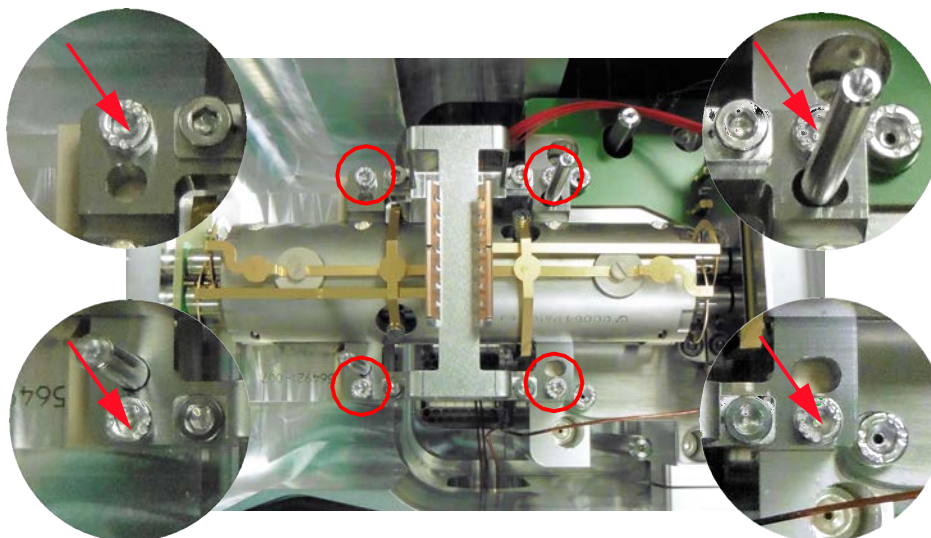
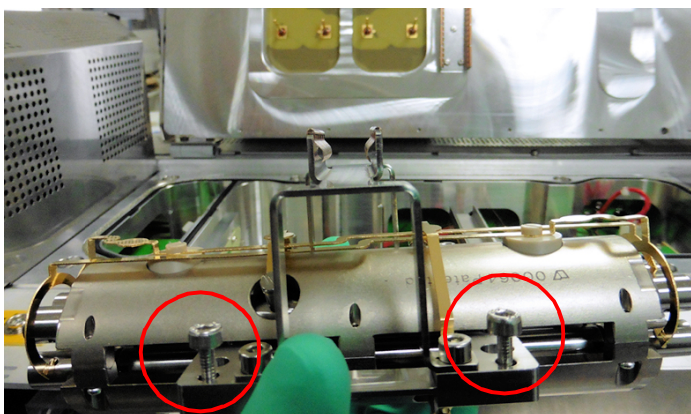

Figure 4. Quadrupole screws
Figure 5. Quadrupole removed
- Loosen the four 3 mm hex screws in the corners of the quadrupole holder. See red circles and arrows in Figure 4. The screws should be moving freely by a few millimeters, but remain in the holder. See also Figure 5 on page 4. (The other four hex screws hold the EMC bracket on the quadrupole holder.)